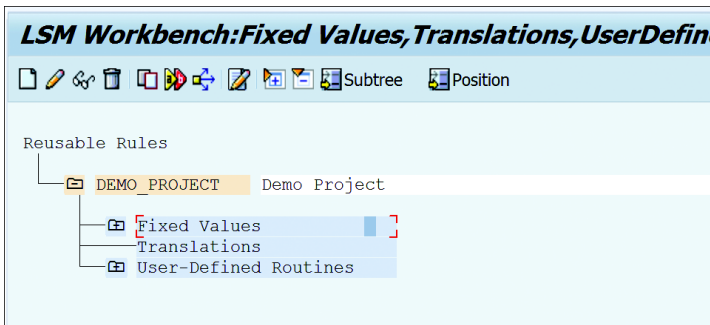

Figure 19.73 Reusable Rules
9. In the next step, MAINTAIN FIXED VALUES, TRANSLATIONS, USER-DEFINED ROUTINES, you can maintain reusable rules such as fixed values for the fields, translations, or user routines (subroutines; see Figure 19.73). This step allows you to maintain any conversion rules to convert the data to SAP format. Click the CREATE button in the toolbar to create the reusable rules that can be used during field mapping.